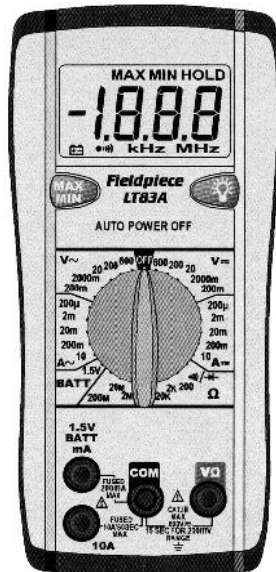

Fig. I-22 Multimeter used to measure ohms, volts, and milliamperes as well as microamperes. (Fieldpiece)
- **Ohmmeter.** The basic unit for measuring resistance is *ohm*. An ohmmeter is a device for measuring resistance in ohms (Ω). It is an ammeter (or milliammeter or micrometer) movement modified to measure resistance (Fig. I-22).
Figure I-22 shows a multimeter capable of measuring ohms with three different ranges: $R \times 1$, $R \times 100$, and $R \times 10K$ ($R \times 10,000$). This means the meter can measure from 0 to 200 Ω on the $R \times 1$ scale and 0 to 200 k Ω on the $R \times 100$ range. Within the $R \times 10K$ range, it is capable of measuring from 0 to 20 M Ω (megohms; mega means 1 million). The meter scale has to be multiplied by 100 or 10,000 in order to have it read the proper value. By changing resistors, it is possible to vary the resistance measuring range of an ohmmeter. Figure I-23 shows a basic ohmmeter using a 1-mA meter movement and its necessary parts. Note how the battery serves as the power source. This makes it necessary to turn off power whenever you read the resistance of a circuit. THE OHMMETER HAS ITS OWN POWER SOURCE. Do not connect it to a LIVE CIRCUIT or one with the power on, because that will result in destruction of the meter movement.